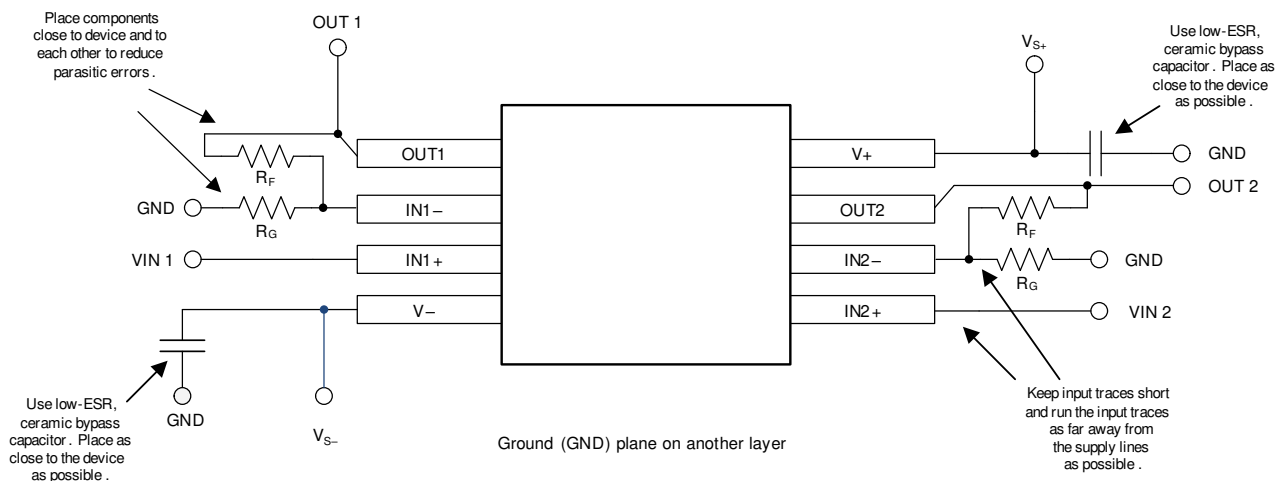

Figure 12-2. Layout Example
- Place the external components as close to the device as possible. As illustrated in Figure 12-2, keeping R_F and R_G close to the inverting input minimizes parasitic capacitance on the inverting input.